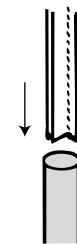

Figure 1.
1. Place two twist ties on top of one another, fold them into a V-shape, and insert the twist ties together into one end of a coffee stirrer (see Figure 1).